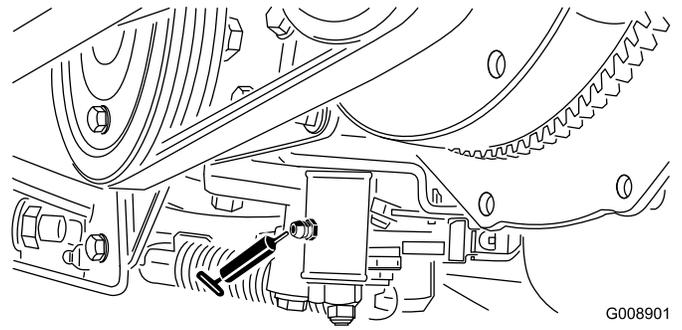

Figure 38
- Neutral-adjustment mechanism (Figure 38)